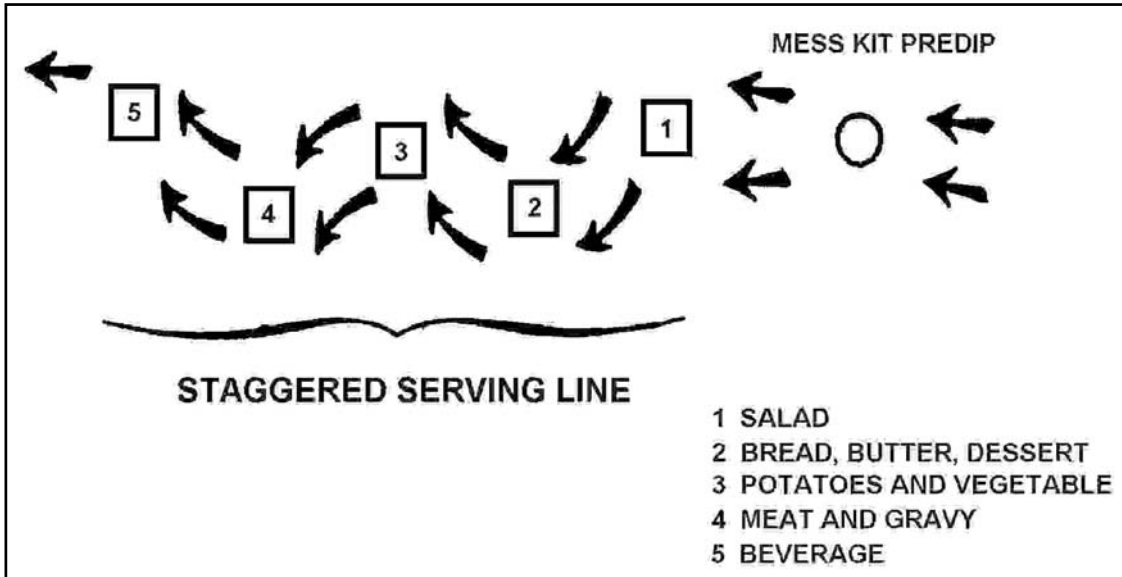

Figure 3-31. Serving Lines Under Threat of Attack
- (1) One-way staggered (see Figure 3-31).